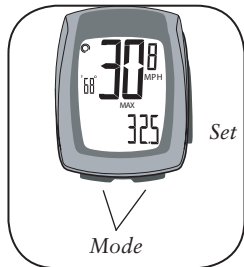

Figure 12- Buttons on the Incite 9i and 11i computer
The buttons on the computer are (Figure 12):
1. Cycle **Mode** to MAX (Figure 12).